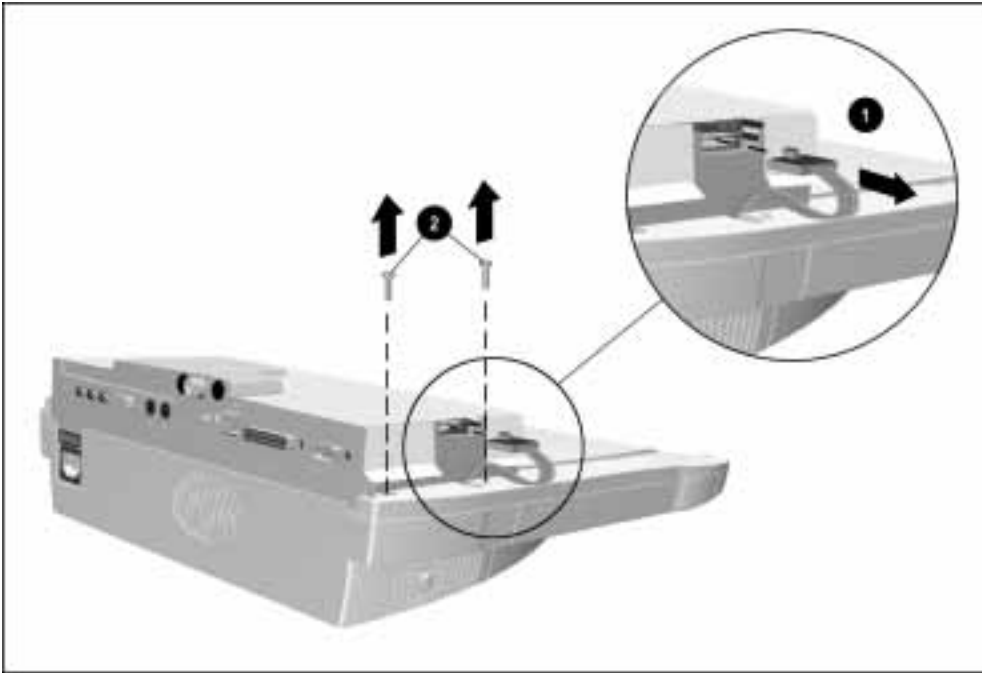

Figure 6-8. Removing the Module Assembly Screws and Disconnecting the Power Supply Cable
6. Disconnect the power supply cable from the module assembly ② (Figure 6-8).
7. Remove the two screws securing the module assembly to the base assembly ②.